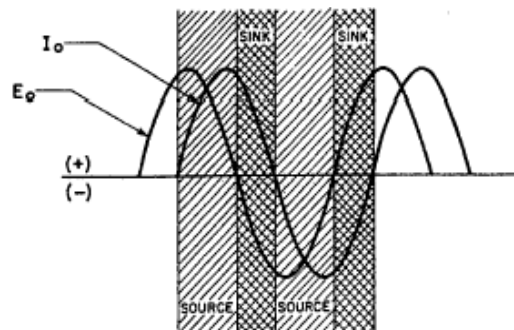

FIGURE 1. SINK OPERATION PRODUCED BY LOAD PHASE SHIFT
Each channel can operate automatically in all four voltage-current quadrants; it can act as either a source (output voltage is the same polarity as output current) or a sink (output voltage is opposite the polarity of output current). An example is shown in Figure 1 where the BOP channel is programmed to deliver a sine wave output and the load
3.2. STARTUP DEFAULT. The Device Address (GPIB address) for the each channel is set by means of DIP switches CH1S1 and CH2S1, positions 1 through 5 (Figure 1) which can be accessed through the top cover of the BOP. CH1S1 is factory preset to address 6 (channel 1). CH2S1 is factory preset to address 7 (channel 2). If a different Device Address is required in your system, there are 30 (1-30) possible choices (see Table 1).